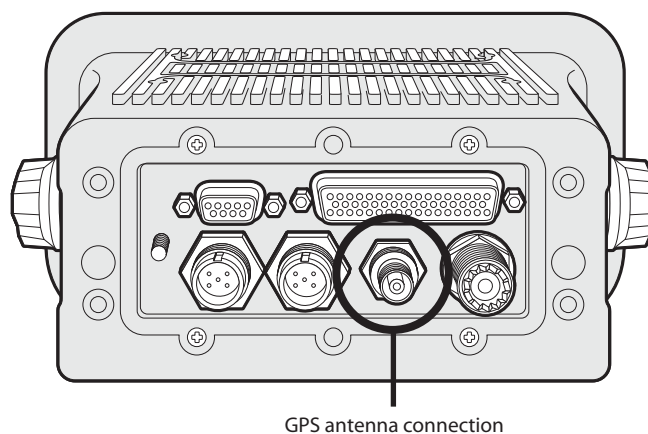
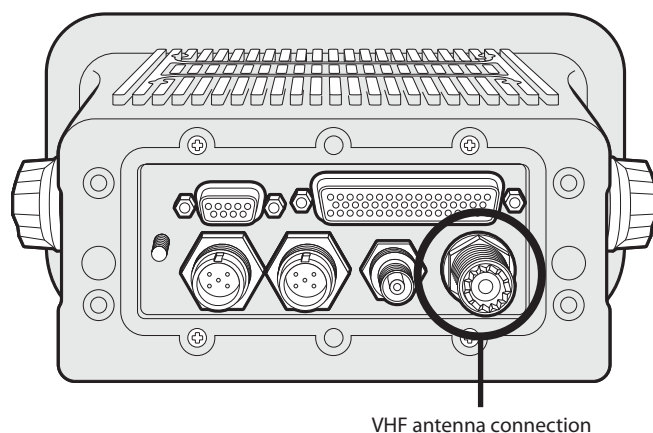

Figure 38 GPS antenna connection
Figure 40 VHF antenna connection
- Connect the GPS antenna cable to the GPS connector on the AIS transceiver as shown in Figure 38.
- Connect the VHF antenna cable to the VHF connector on the AIS transceiver as shown in Figure 40.
If antenna connections have not already been made the GPS and VHF antennas should now be connected to the transceiver. Refer to Figure 38 and Figure 40 for guidance.